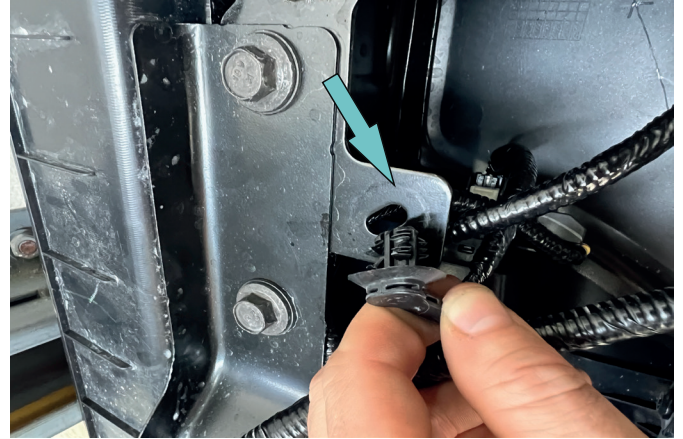

Fig. 8
8. Disconnect parking sensors wiring from plastic bumper reinforcement (Fig. 8).